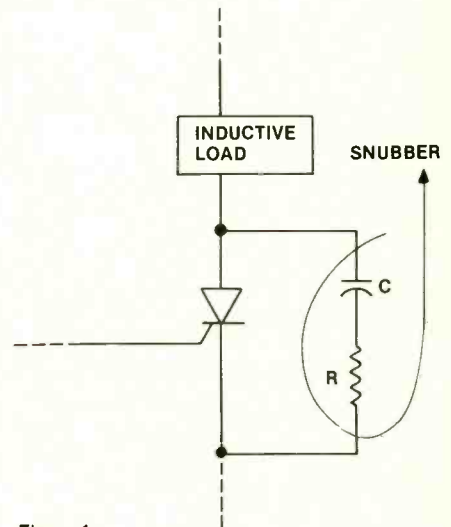

Figure 1.
1. C (From the April 1986 issue.) Undesirable turn-on is likely to occur when an SCR (or triac) has an inductive load as shown in Figure 1. When the current is switched off, the counter voltage (created by the collapsing magnetic field) can be high enough to turn the SCR on. This undesirable turn-on occurs even though the gate voltage is zero. The R-C snubber circuit filters the undesirable counter voltage.